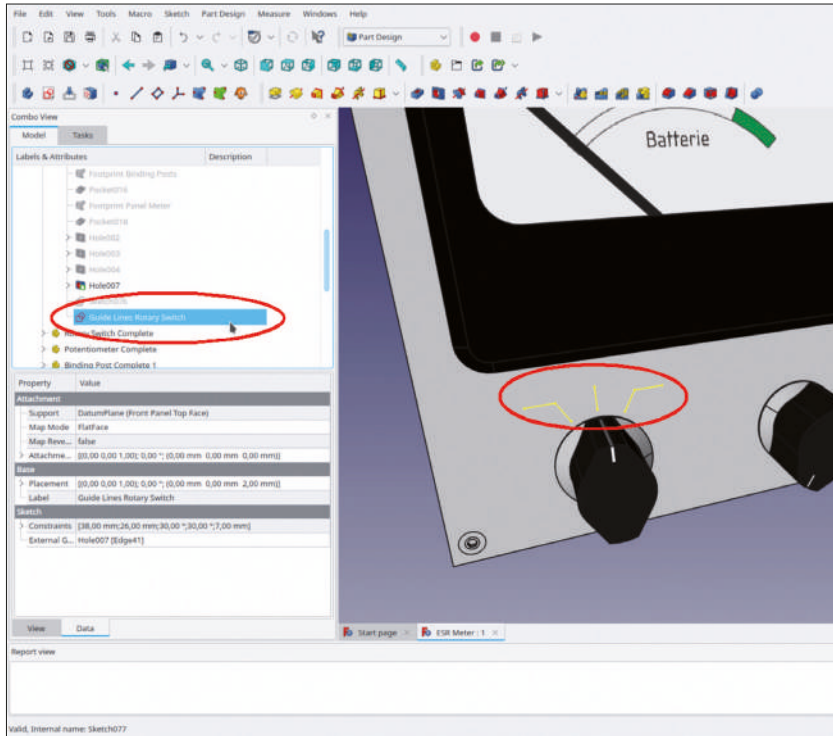

Figure 8-16
20. In the tree view, rename the sketch to 'Guide Lines Rotary Switch' (Figure 8-16).